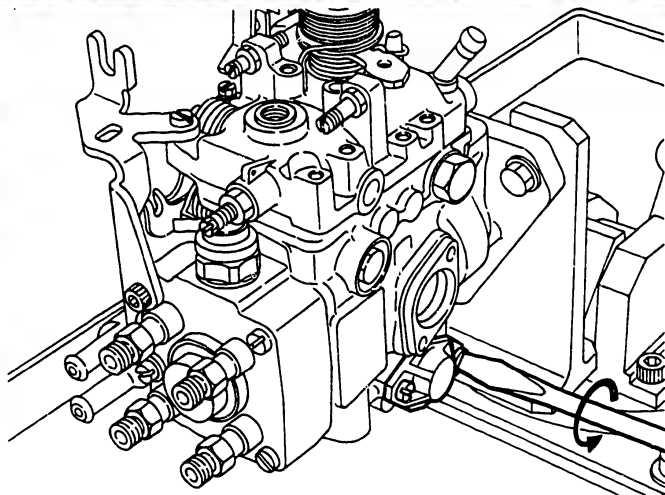

Fig. 157 Removing the cover
2. Remove the two screws (38) to remove the low pressure side timer cover (37). (Fig. 157)